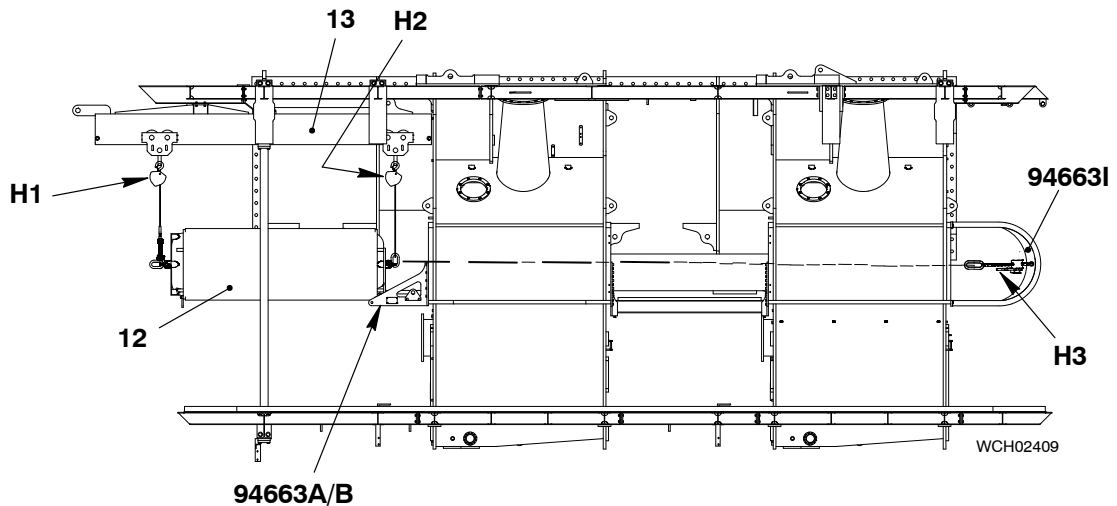

Fig. 16
- 9) Continue with step 10) above until the SAC (12, Fig. 16) is in a horizontal position. Make sure that the rear of the SAC is on the supports (94663A/B).
- 10) Attach the manual ratchet (H3) to the support (94663I) and the center rear swivel lug on the SAC (12).